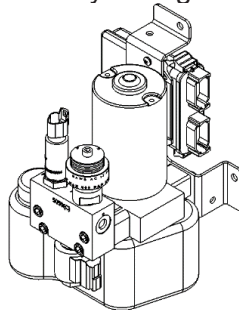

Figure 1: Two electrical connections for control module. Picture may vary depending on HCC options
- 8.2 Disconnect the two electrical connections from the control module (see Figure 1).